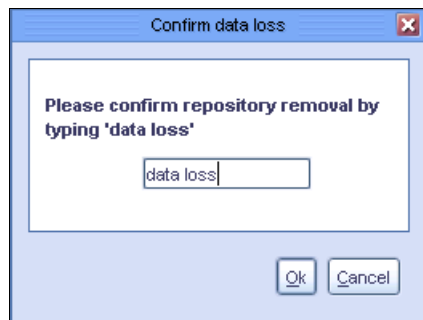

Figure 5-64 ProtecTIER data loss confirmation
4. The Data Loss Confirmation window opens, as shown in Figure 5-64. In the field, enter "data loss" and click **OK**.